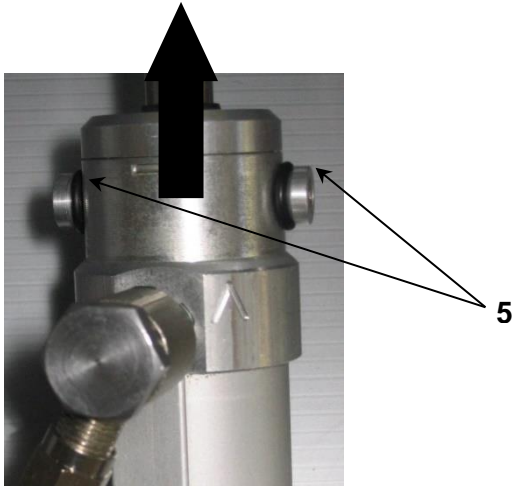

Fig. 54 PUAV pneumatic actuator - lock release direction.
- Release the **actuator locks (5)** by lifting them in the direction of the actuator movement (in accordance with the arrow on Fig. 54).
- If necessary, replace the thermal fuse (alcohol ampoule (2)).